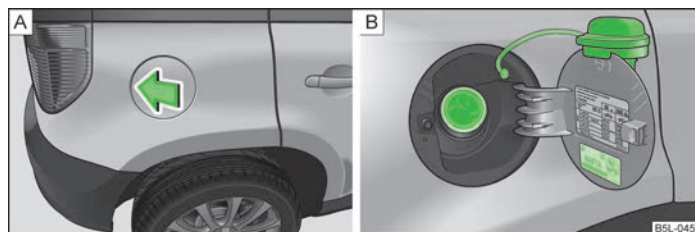

Fig. 138 Right rear side of the vehicle: Open fuel filler flap/fuel filler flap with cap unscrewed
The correct type of fuel for your vehicle and the tyre size and inflation pressure are specified on the inside of the fuel filler flap » Fig. 138 on page 167 - [B].
- Press in the middle of the left area of the fuel filler flap » Fig. 138 - [A].
- Unscrew the filler cap by turning it to the left and place the cap onto the top of the fuel filler flap » Fig. 138 - [B].